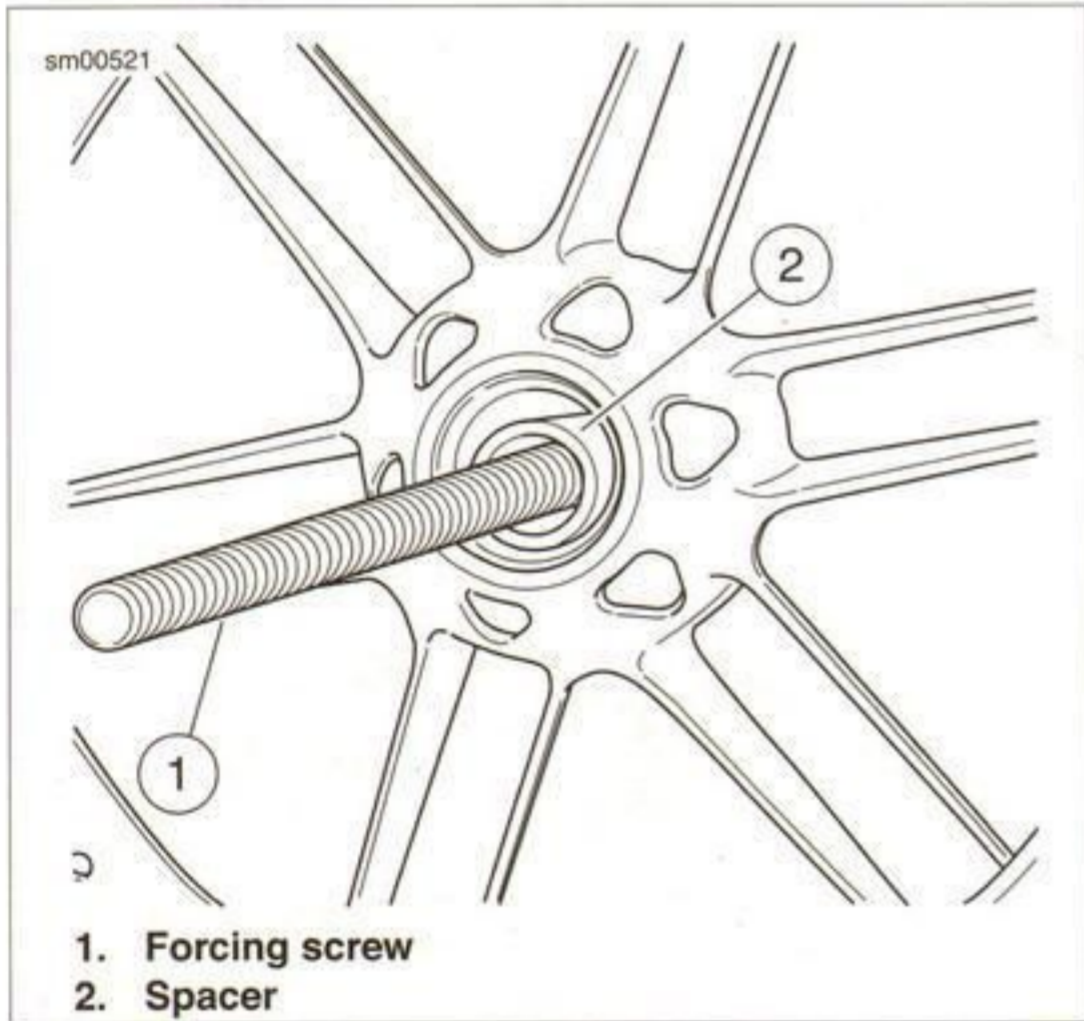

Figure 2-47. Install the Spacer
3. See Figure 2-47. Install the spacer (2).